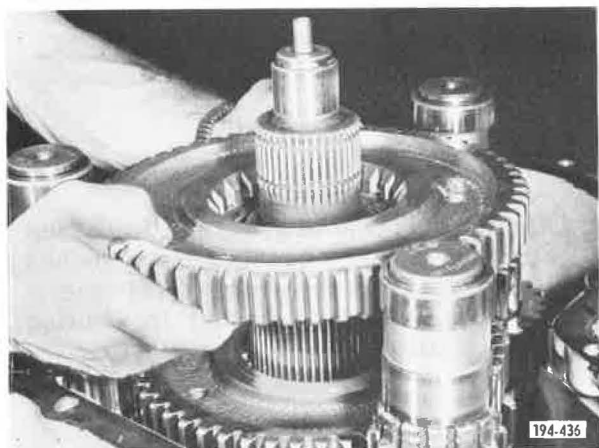

Figure 5-520. Installing Gear
24. Secure first speed gear thrust washer to front face of first speed gear with a light coat of grease, and then install first speed gear (beveled side of clutch teeth toward rear of transmission) with its thrust washer and engage with countershaft first speed gear. See Figure 5-520.